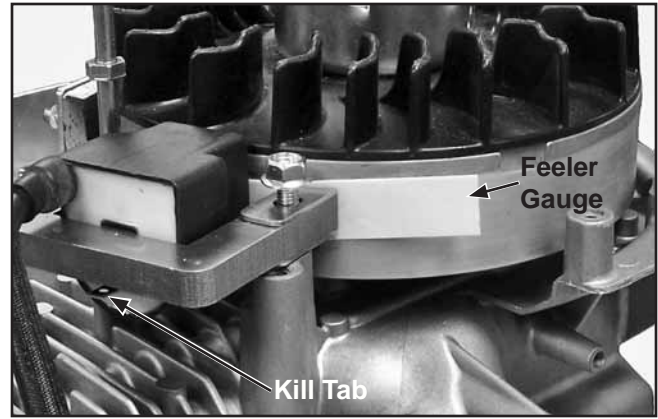

Figure 10-32. Feeler Gauge.
4. Set the air gap by placing a 0.254 mm (0.010 in.) plastic feeler gauge between the magnet and the module. Loosen the stud and let the magnet draw the module against the feeler gauge. See Figure 10-32. Torque the fasteners to 10 N·m (88 in. lb.).
6. Connect the kill lead to the ignition module. See Figure 10-32.